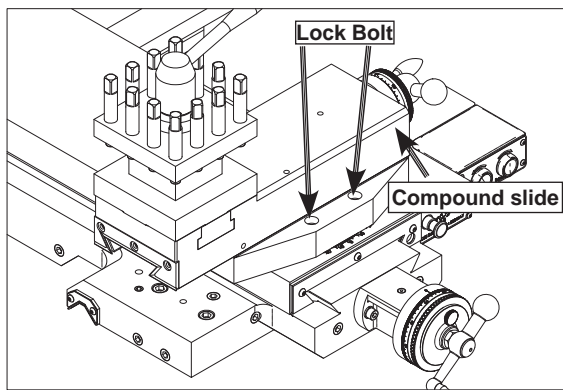

Figure 41. Compound slide set at an angle.
1. Loosen the three CAP screws at the base of the compound slide (Figure 41).